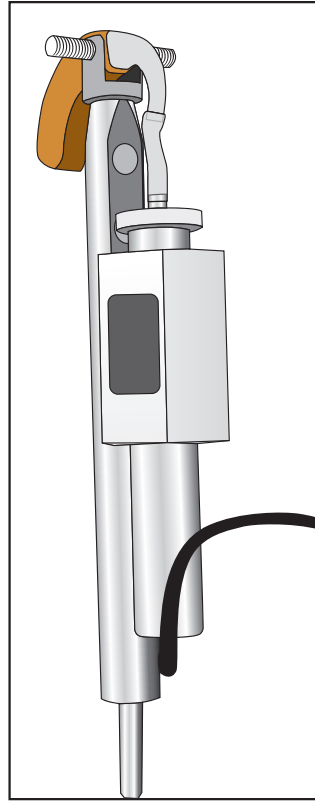

Figure 6.3.1B: BTE hearing aid positioned on Rotating Shaft and Positioning Saddle
3. Attach the magnetic strip on the coupler to the flat side on the rotating shaft and slide the body of the hearing aid through the opening of the Positioning Saddle. The area between the two microphones of the hearing aid should form a line perpendicular to the vertical surface of the post. See Figure 6.3.1B.